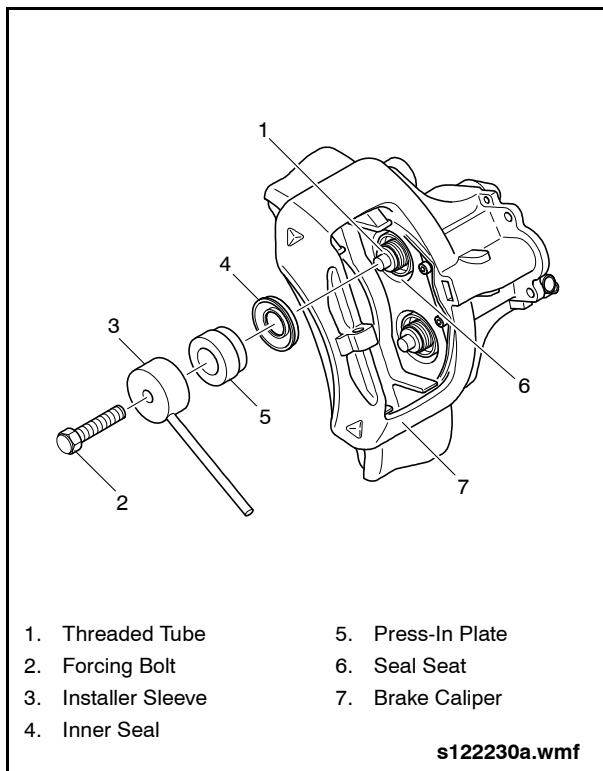

Fig. 1-69: Installing Inner Seal
2. Thread the long forcing bolt into the installer sleeve (Item 82 from special tools list). See "Fig. 1-69: Installing Inner Seal" on page 72.